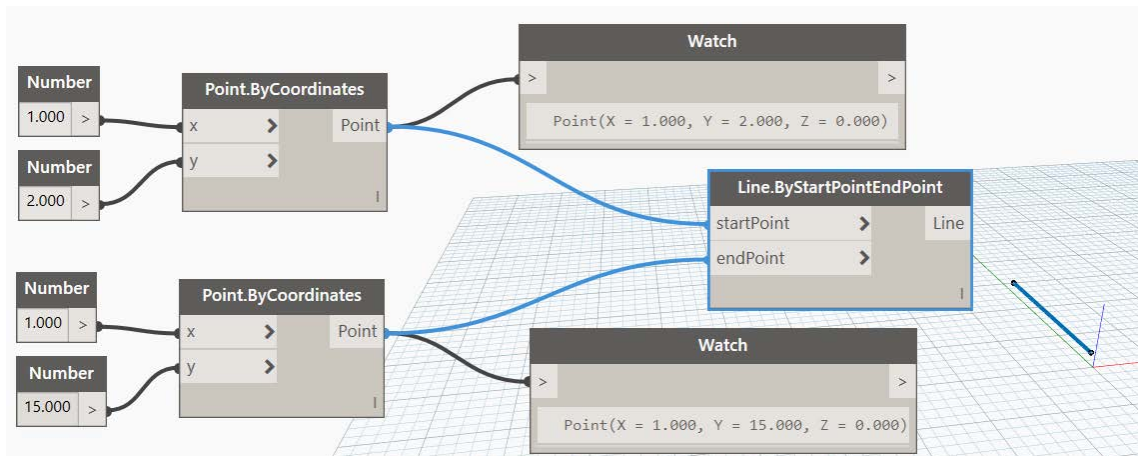

Figure 19
22. Wire these to the *Line.ByStartPointEndPoint* node to create a line (see Figure 19).